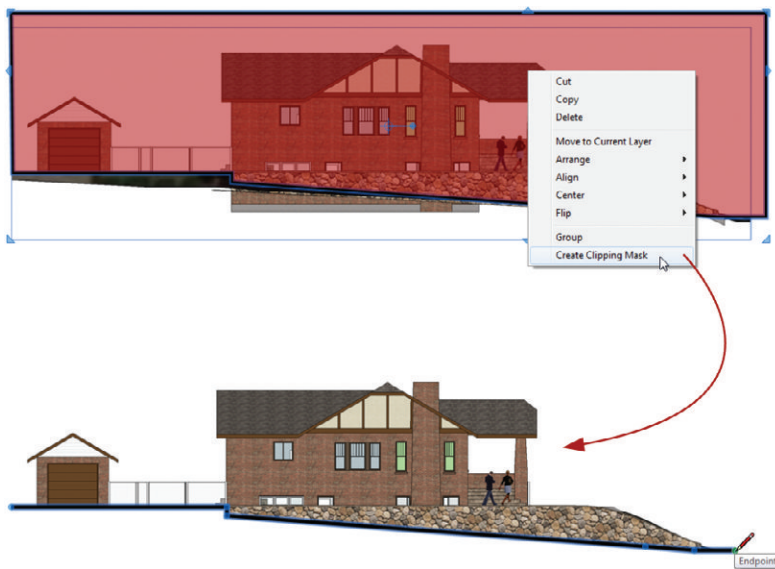

Figure 20.26 The Building Elevation clipping mask
- ❑ In LayOut, use a clipping mask to remove unwanted portions of the site (Figure 20.26).